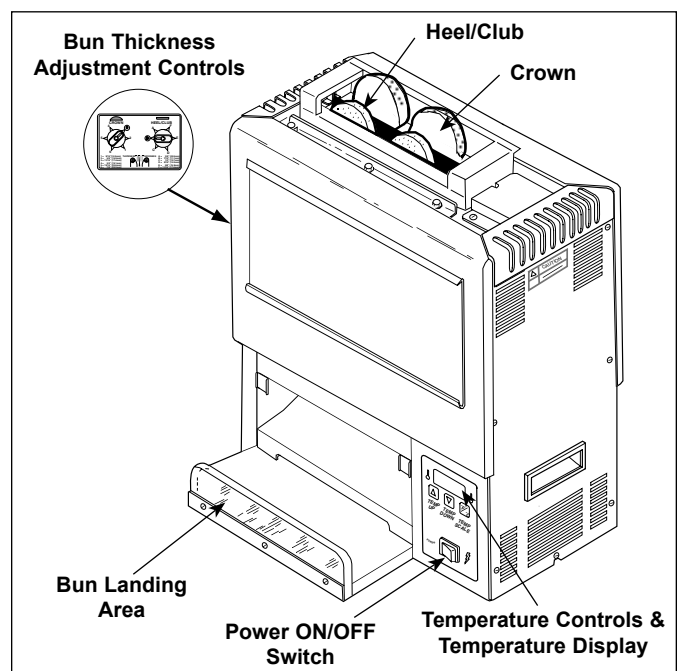

Figure 3. Rapid Toaster
- Turn the Rocker Switch on (Figure 3). Allow 30 minutes warm-up time before proceeding.
- Drop buns into toaster (Figure 3). Cut sides of heel and crown must face each other (heel/club in front, crown in back).
- Toasted product will drop into the bun landing area (Figure 3).